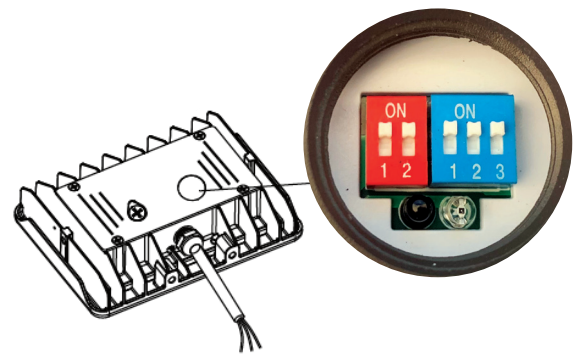

Fig. 32
1. Use a screwdriver or coin to unscrew the translucent plug (Fig. 32). Red DIP switches control CCT, Blue DIP switches control photocell (DIP 1) and wattage adjustment (DIP 2, 3). Refer to switch map below: